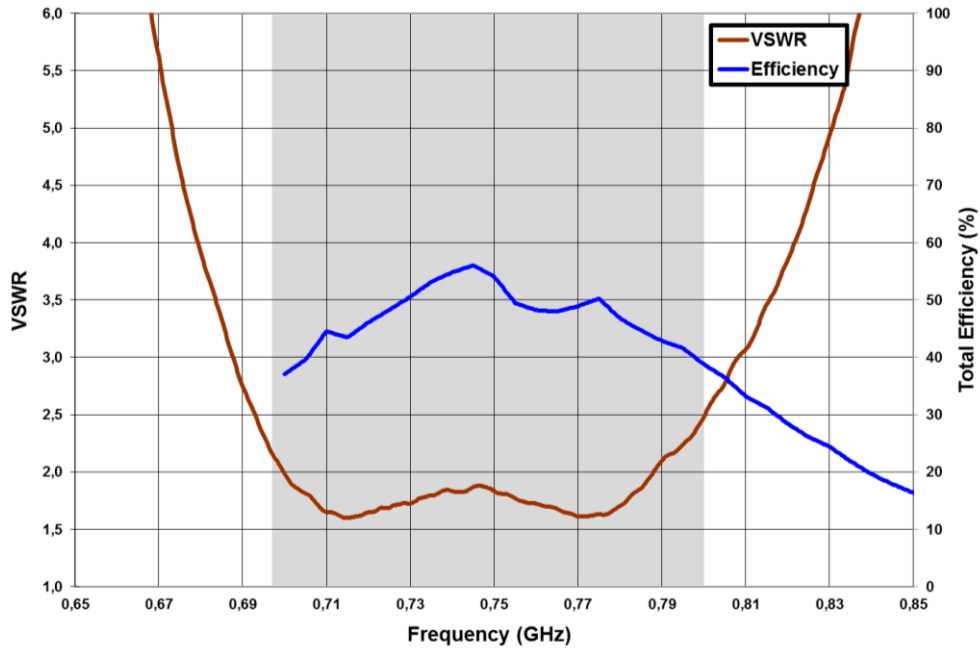

Figure 3 – VSWR and Total Efficiency for Evaluation Board with UFL cables.
- The efficiency measures (Figure 3 and Figure 4) are shown from 700 MHz due to the minimum frequency specifications of the Satimo STARGATE 32 anechoic chamber.